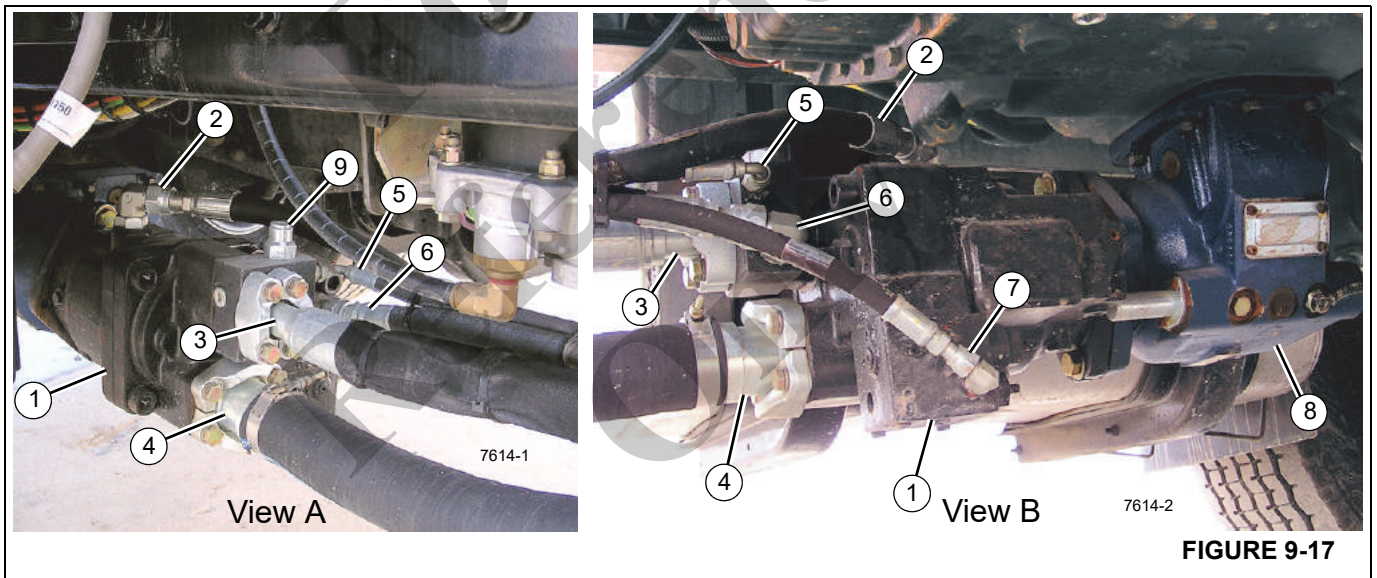

FIGURE 9-17
See Figure 9-17 for the following steps.
The hydraulic system pressure is supplied by a hydraulic pump (1, Figure 9-17) mounted on the truck power take-off (PTO) (8).
10. If using the configuration shown in Figure 9-17 be sure to position the case drain port (2) at the highest point above ground level.
14. Remove the dust covers from the hydraulic pump inlet and outlet ports and install the hydraulic fittings and lines as shown in Figure 9-17.
**NOTE:** Figure 9-17, View A, shows the left (driver's) side of the hydraulic pump installation and View B shows the right (passenger) side of the hydraulic pump installation.